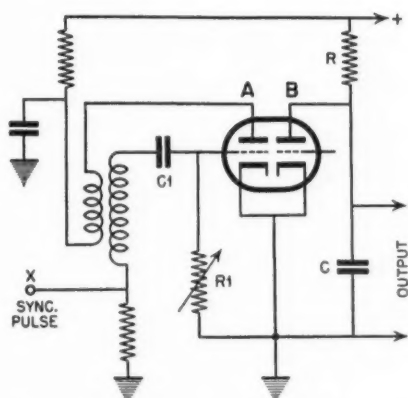
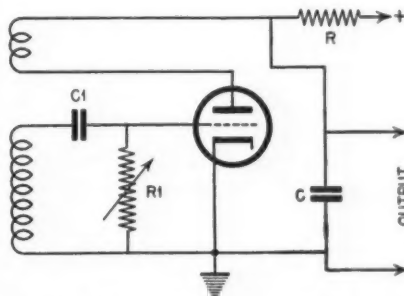
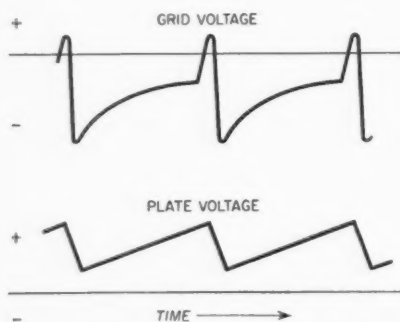

Fig. 2. Blocked-oscillator sweep circuit used in RCA television receivers.
Fig. 3. Single-tube blocked-oscillator sweep circuit, otherwise the same as Fig. 2.
Fig. 4. Voltage waveform of Fig. 3 circuit.
the phase-modulated current contains a carrier $[A \cos (\omega t + \theta)]$ of constant amplitude, frequency and phase; two first-order sidebands $[AK\theta \sin (\omega t + \theta) \cos pt]$ essentially similar to those of expression (2); together with a number of higher order sidebands consisting of the carrier modulated by harmonics of the signal frequency. See Fig. 2. Here it may be recalled that:
The quantity M is usually referred to as the modulation index and may be compared, with certain reservations, to percentage modulation in amplitude modulation. Of course the modulation index can be and frequently is greater than unity, whereas percentage modulation (K) never exceeds unity. Like phase-modulated currents, frequency-modulated currents consist of several sets of sidebands. See Fig. 3.
Fig. 2. Signal distribution for phase-modulated wave with constant phase variation for two modulation frequencies. Phase deviation constant. Only important energy-bearing sidebands shown.
Fig. 3. Signal distribution for frequency-modulated wave with constant frequency variation for two modulation frequencies. Frequency deviation constant. Only important energy-bearing sidebands shown.
Several variations and refinements of this system are in use. In Fig. 2, it is shown how this arrangement is employed in the RCA television receivers TRK-9 and TRK-12.
It is possible to have the two jobs which are performed by tubes A and B in Fig. 2, done by a single tube, as in Fig. 3. The same tube serves both as oscillator and as discharge tube. The action is practically the same as described above. Condenser C charges and is periodically discharged as the tube breaks into oscillation. Waveforms of the grid voltage and plate voltage are shown in Fig. 4.